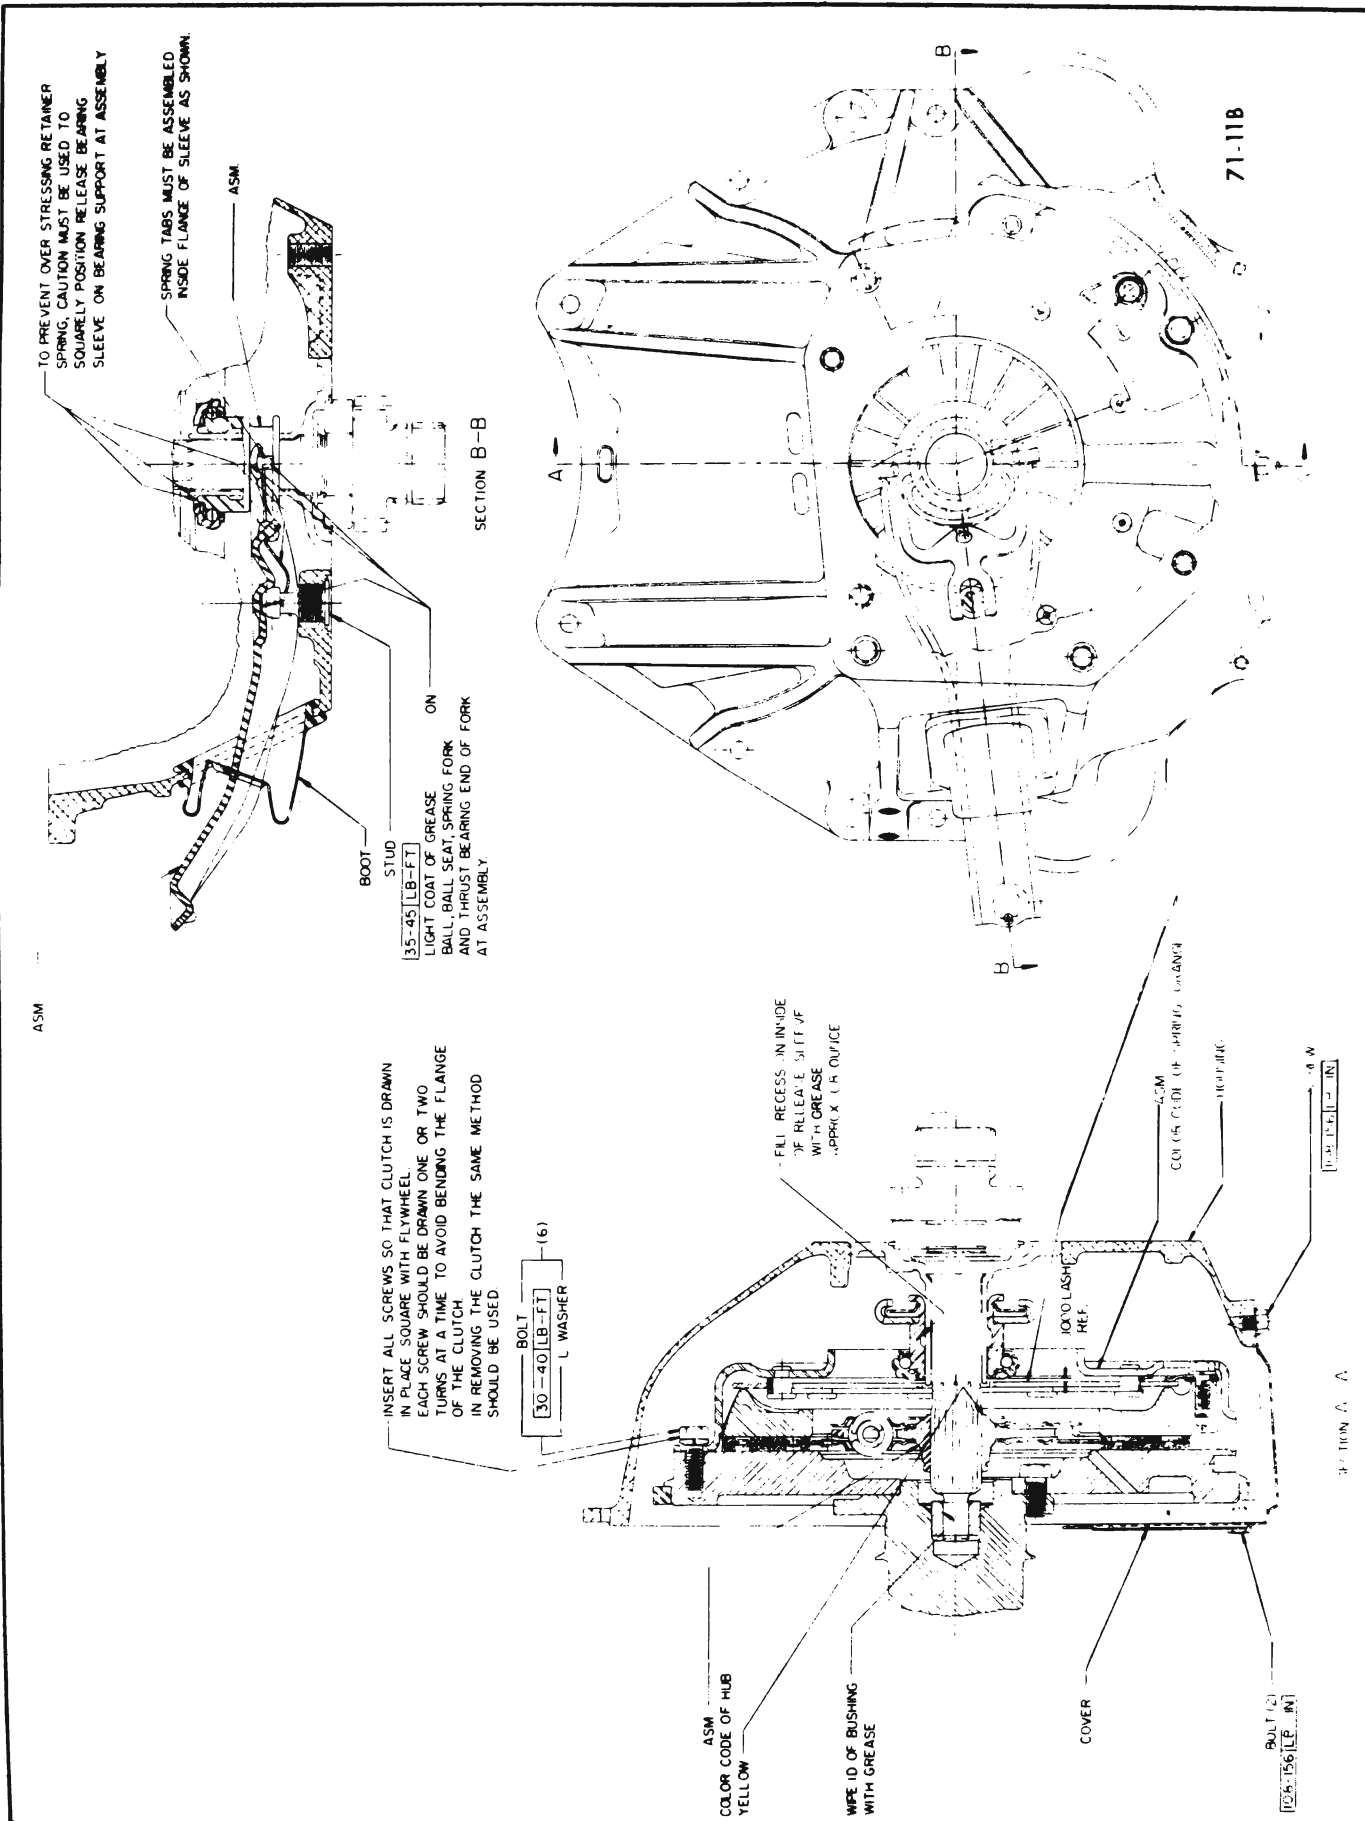

Figure 71-4 - Clutch Inner Controls - 43-44-45000 Series
**DIVISION III****SERVICE PROCEDURES****71-4 REMOVAL, INSPECTION, LUBRICATION AND INSTALLATION (SEE FIGURES 71-4 AND 71-5)****a. Removal from Vehicle**